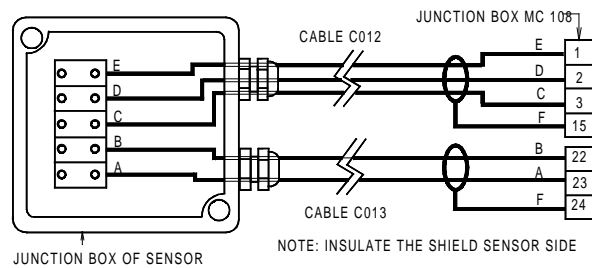
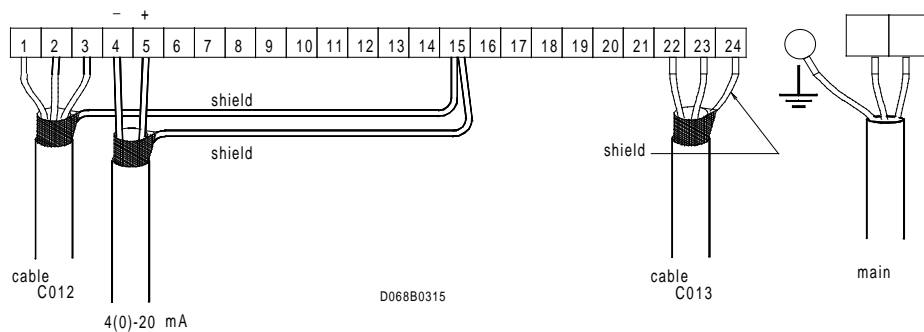

Fig. 4
Fig.5
The connection between converter and sensor is made by the two cables C012 and C013 following carefully the instruction illustrated in fig. 4
Sensors MUT 500 and MUT 1100 are supplied with cables C012 and C013 already connected. In their free ends, these cables are equipped with small rings marked with some characters which will help the connection to the converter, according to diagram of fig. 4.
Fig. 5 shows the connections of cables C012 and C013 (for the separate version only) (fig. 4) of current output 4 (0) - 20 mA of power supply